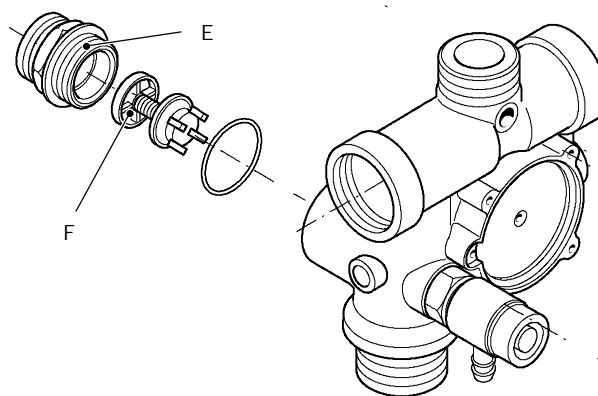

fig. 76
- 5 Unscrew the connector E and remove the by-pass valve F (fig. 76);
- 6 reassemble the by-pass valve as illustrated in fig. 76 and proceeding in reverse order.